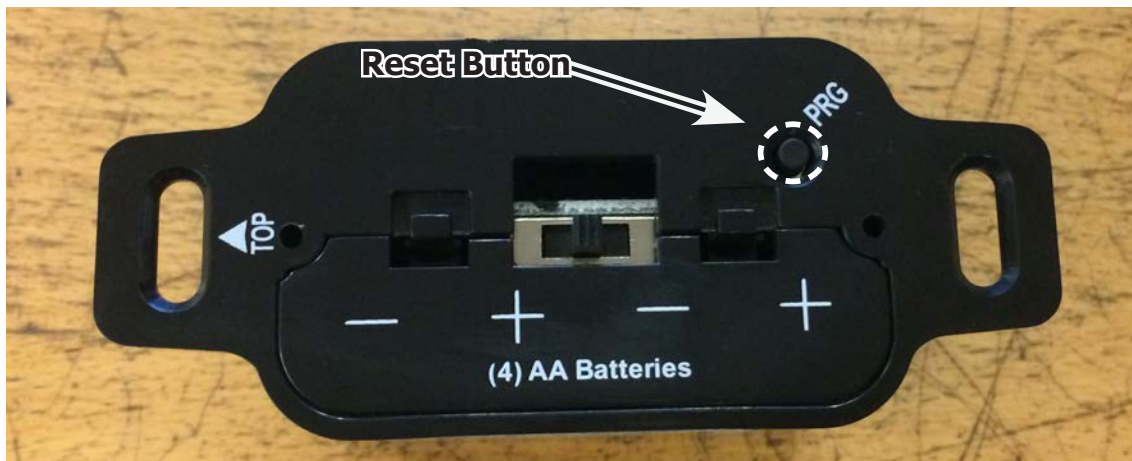

Figure 7: Battery Holder.
The Battery Holder (Figure 7) connects directly to the IFC with a wiring harness. The IFC is powered by four (4) AA type batteries. The IFC accepts commands via radio frequency from the Transmitter to operate the appliance in accordance with the particular Proflame system configuration. The Battery Holder has a three (3) position slider switch that can be set to one of three positions: ON (Manual Override), Remote (Remote control), or Off. The Battery Holder has a reset button at the front right corner that is used to synchronize the Transmitter when using the for the first time, or after the batteries have been replaced.
Install the four (4) AA batteries into the IFC battery holder. Note the polarity of the battery and insert into the battery bay as indicated on the body of the battery holder. Press the reset button on the Battery Holder marked "PRG" (see Figure 7).